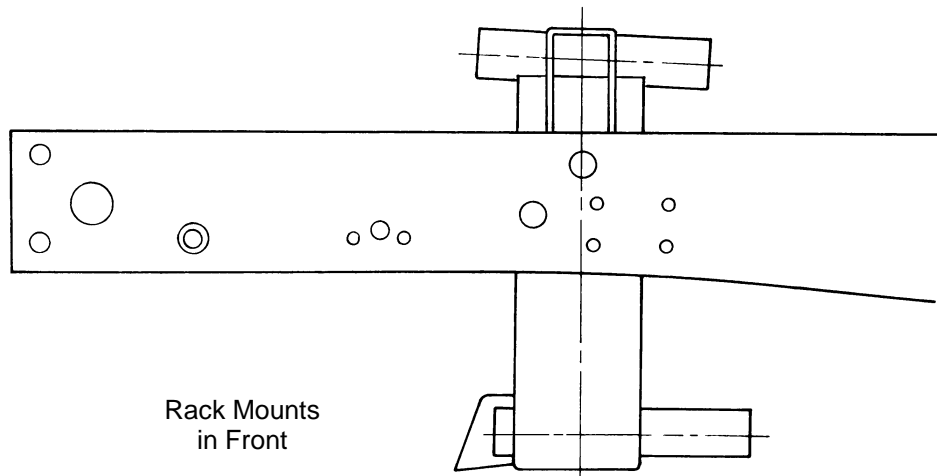

Figure 2
4. Trial fit the new crossmember onto the rails. It should be located with its centerline on the marked spindle centerline. See Figure 2. During boxing, the rails may have a tendency to bow outward slightly, if they were not clamped across the frame during welding. If there is a small gap, center the crossmember and fill with weld. If there is a large gap, the rails may be undersize from grinding too much material off the edges of the rails fitting the boxing plates. If this is the case, a spacer or filler plate may be required. If the crossmember is too wide and does not fit in, grind it to fit snug. It should be seated flat on the top of the frame rails. Clamp in place, double check your measurements, making sure crossmember is squared on the frame, then weld in place. Tack weld the top and bottom of the crossmember at this point. Proceed to step 5 & 6, trial assembling all the stock components and checking the alignment. If all goes well, then remove the parts and finish weld the crossmember in place. Be sure to fully weld the crossmember and upper shock mounts to the frame rails, as the front end weight of the truck is supported by the upper shock mounts and the crossmember helps to keep the front frame rails from twisting and flexing, so good strong welds are required.